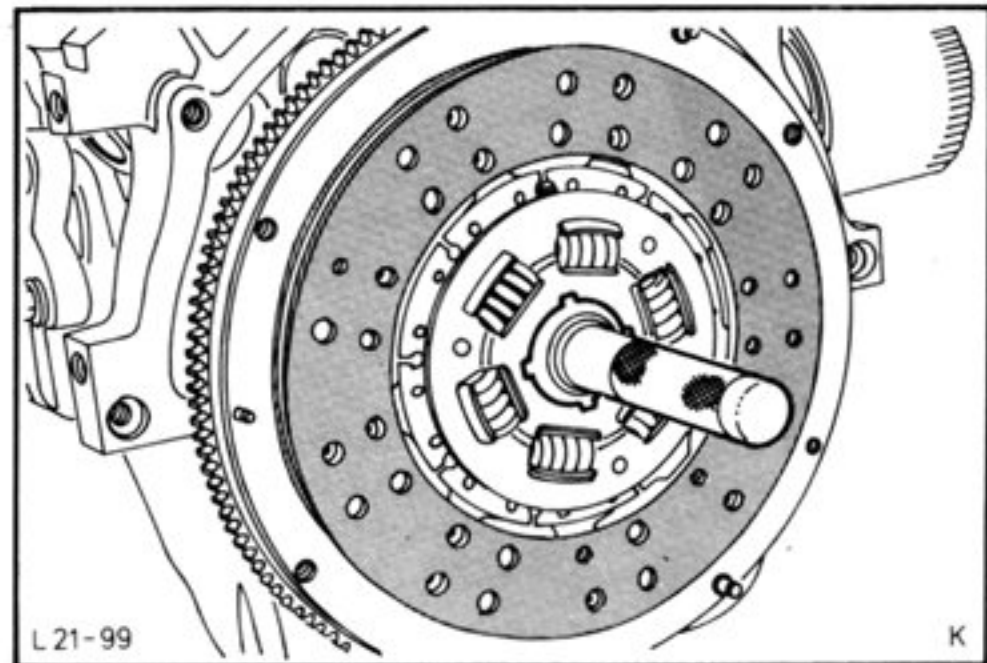

Fig.75. Centre clutch disc with special tool 21-067-A.
79. Centre clutch disc with special tool 21-067-A, Fig.75. Place pressure plate on the dowels and tighten to specified torque.